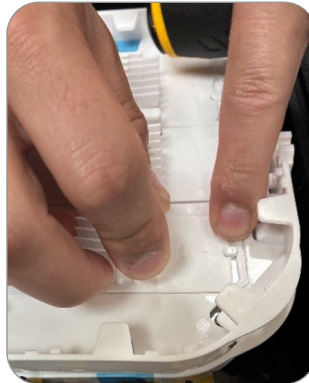

Figure 26
2. To re-install a splice module to the splice tray, align the latch tabs with the module slot on the splice tray and push down to engage. (Figure 26)